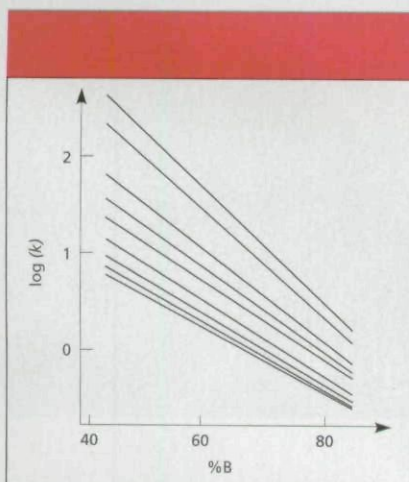
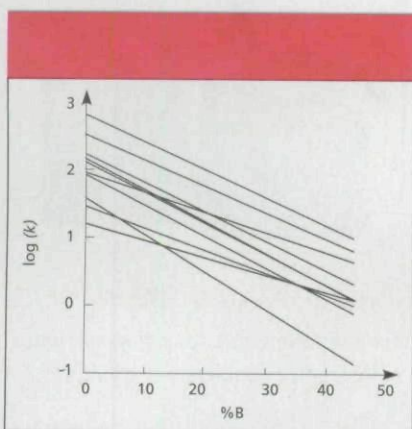

Figure 1: Plot of $\log(k)$ vs. %B for the "regular" sample of reference 4.
Figure 2: Plot of $\log(k)$ vs. %B for the "irregular" sample of reference 5.
way to change the peak spacing for most samples. Although a change in %B is not the most powerful way to change selectivity, it is very easy, robust, and is compatible with UV and mass spectral detectors. Samples that contain analytes with different functional groups, such as those of the irregular sample of Figure 2, will respond well to %B as a tool to change peak spacing. These reasons support our decision to change the %B first in our efforts to fine-tune the selectivity of a given separation.
We can use plots, such as Figures 1 and 2, to calculate k for each peak and, thus, α for each peak pair at any %B. Because these plots are on a semilog scale, they can be hard to interpret visually. A more useful approach is to take advantage of the relationship of equation 1. From our $\log(k)$ versus %B plots, we can get values for the retention (i) and selectivity (ii) terms of equation 1 for any %B. A value for resolution R_s is much more useful than k or α , and this can be obtained by calculating, measuring, or estimating the column plate number N (term iii). If we chose starting conditions with a 150 mm \times 4.6 mm column packed with 5- μ m particles, the plate number is approximately 10,000 (2), which is sufficiently close for resolution estimates using equation 1. Now, we can plot R_s versus %B, as shown in Figure 3 for a mixture of six nitroaromatic compounds. This is called a resolution map and is available in the popular retention modeling software packages (for example, DryLab from Molnar Institute, Berlin,
in Figure 2 for a mixture of substituted benzoic acids (nitro, chloro, fluoro, and so forth) and substituted anilines (5). It is obvious that, although the general slope of the plots is similar to Figure 1, the peak spacing for individual pairs of compounds changes dramatically with a change in the mobile phase strength. In several cases,
where k_1 and k_2 are the retention factors of the first and second peak of a given peak pair. If we have retention behavior as in Figure 2, k -values will not change in parallel, so the α -related term ii of equation 1 will change, resulting in a change in resolution.